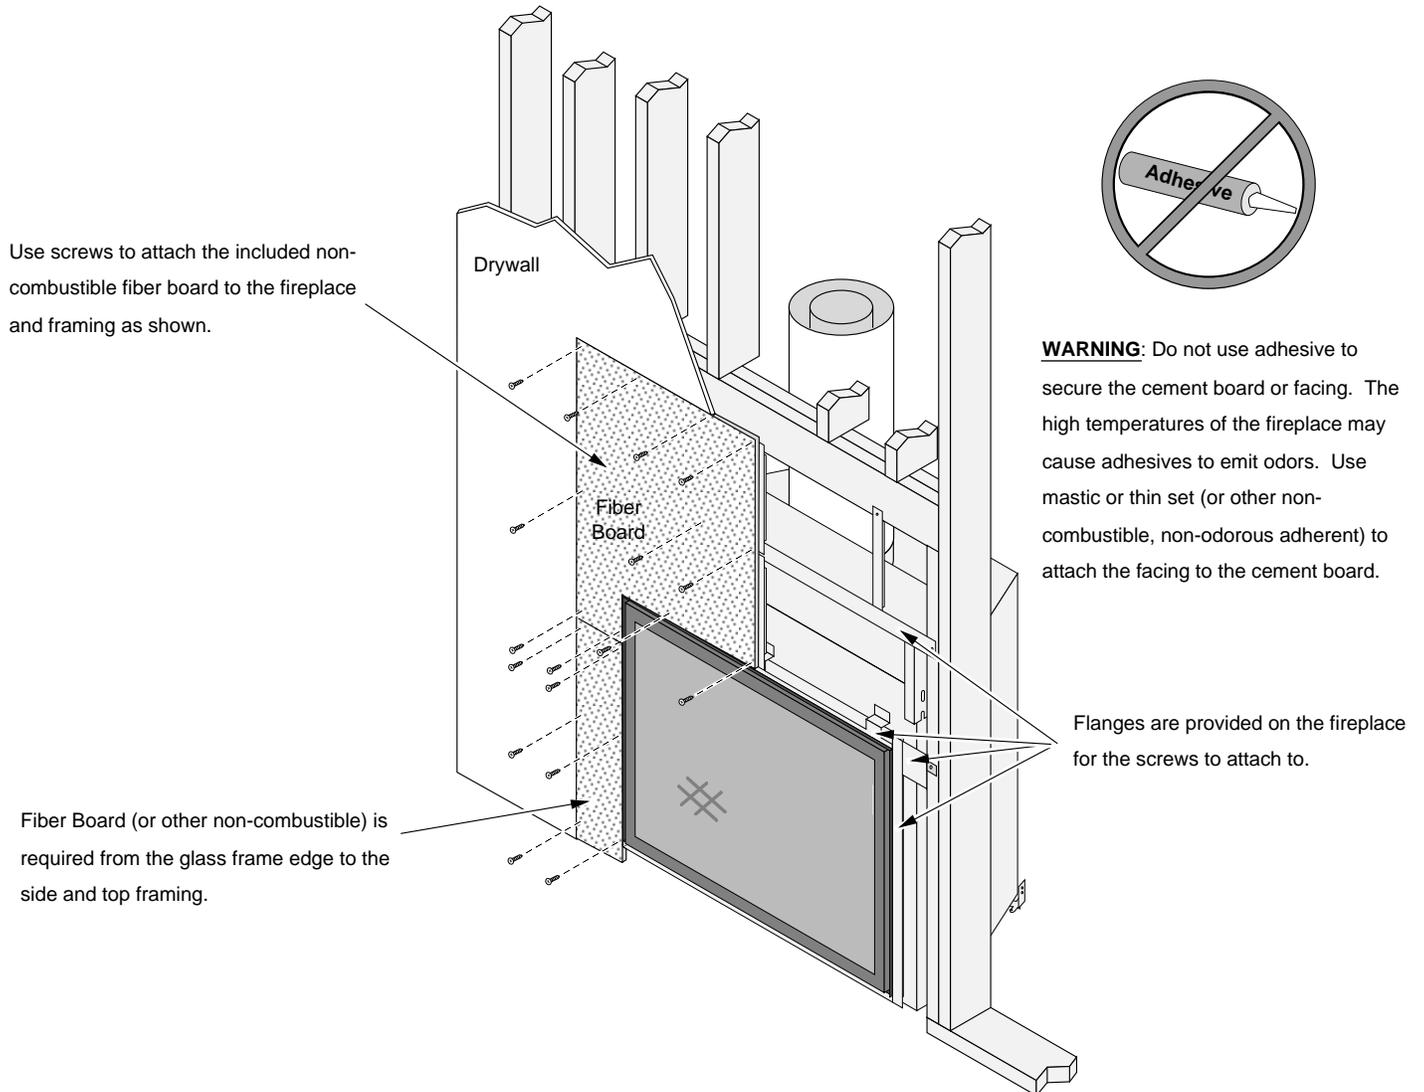

Figure 21
- Attach the included fiber board (or other non-combustible) to the fireplace and framing (see Figure 21 below). This non-combustible facing must extend from the base of the fireplace to the header and to the framing members on both sides.